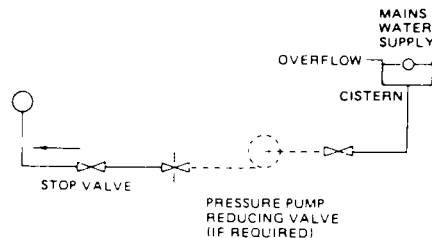

FIG. 5: FULLY PUMPED SEALED SYSTEM.
- where access to make-up vessel would be difficult by using the mains top up method or a remote automatic pressurisation and make-up unit as illustrated in FIG. 5, Methods 1 and 2.
The system shall be fitted with a low filling point at low level which incorporates a stop valve to BS.1010 and a double check valve (approved by the National Water Council) to be fitted in this order from the system mains, refer to FIG. 5, Method 1.